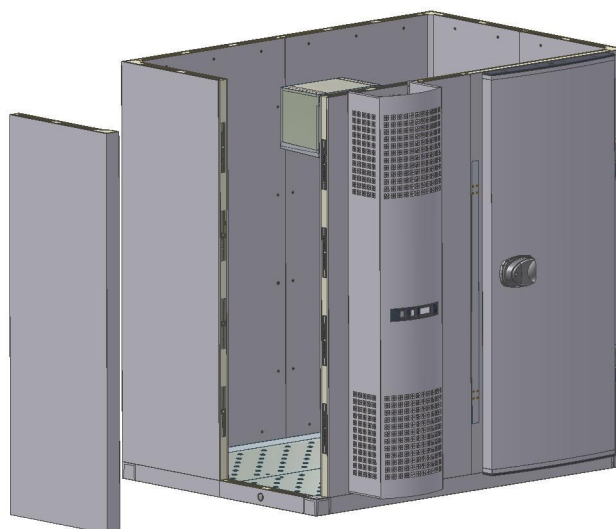

Fig. 5
- Vertical panels (including the panel of the door frame and the group panel) must be assembled so that the last panel must be a corner panel (Fig.5).